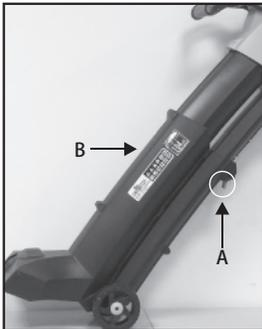

Fig. 1
1. Press the height adjusting button (A) and slide the Vacuum/Blower tube (B) to desired length. (Fig. 1)